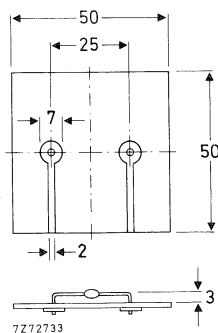

Fig. 2.
2. Thermal resistance from junction to ambient when mounted on a 1,5 mm thick epoxy-glass printed-circuit board; Cu-thickness  $\geq 40\ \mu m$ ; Fig. 2 (see "Thermal model")